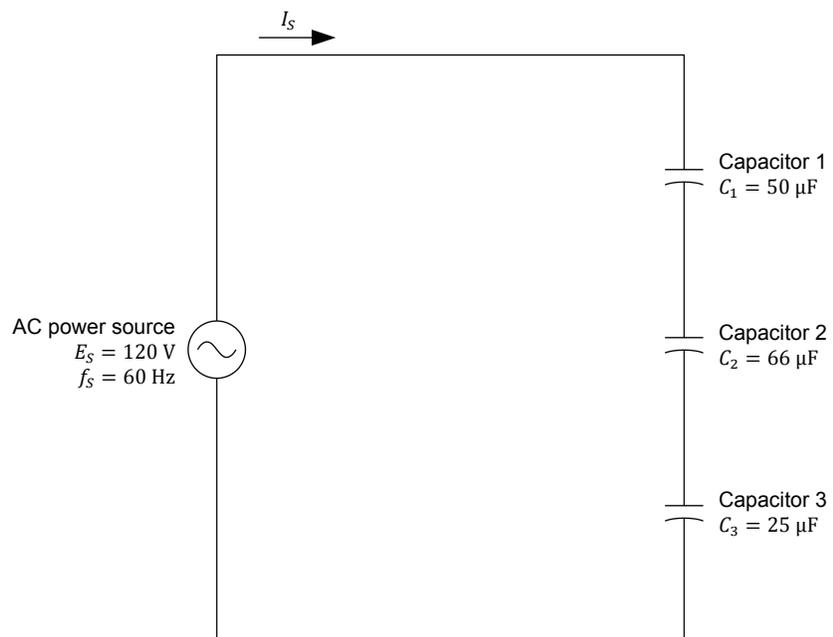

Figure 26. Circuit for review question 5.
5. Consider the circuit shown in Figure 26. Calculate the current  $I_S$  flowing in the circuit from the indicated parameters.